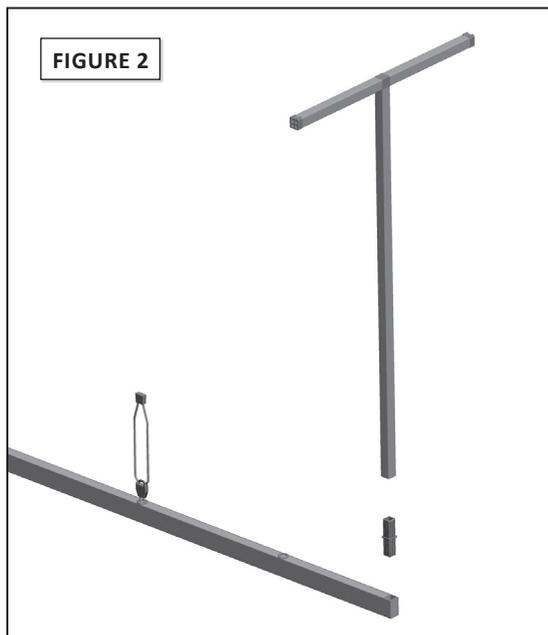

FIGURE 2
- 2 Set the top crossbar onto a workbench or the floor with the holes up. Slide the two-way Quick Connectors into the other end of the legs, and line up with holes in crossbar, as shown in Fig. 2. Seat the connectors into the holes on the crossbar. Lightly tapping the bottom of the leg assemblies with a rubber mallet will help if you can't seat them by hand. Use caution so you don't damage the frame.